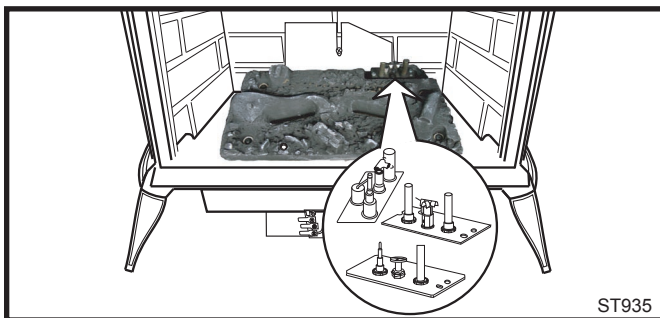

**Fig. 65** Depress and turn center plunger.
- Remove motor top cap using a standard slotted screwdriver. Depress and turn center plunger until arrow points to correct screw. Red for LP and Blue for NG. **NOTE:** Plunger will “snap” into NG position when arrow is close to blue screw. It will not “snap” at LP (Red) position. (Fig. 65)